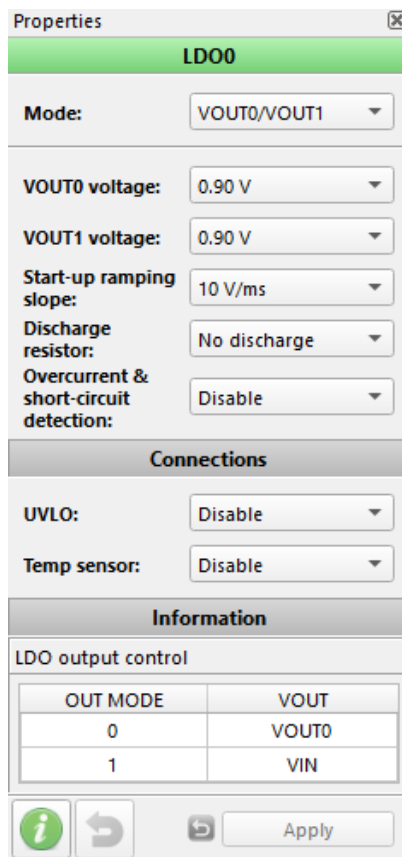

Figure 2: LDO Property Menu
The SLG46580 incorporates the configurability of Dialog's GreenPAK ICs into LDOs by providing numerous programmable features. These LDOs have three modes of operation: bypass mode, high power (HP) mode, and low power (LP) mode. While LP and HP mode are both LDO regulator modes, bypass mode operates as a simple power switch connecting VIN to VOUT. Inside the LDO's property menu, you can select between "VOUT0/VOUT1" or "VOUT0/PWR switch" modes as shown in Figure 2. In "VOUT0/VOUT1" mode, you can select between regulating at VOUT0 or VOUT1 based on the LDO's VOUT0/VOUT1 matrix connection. A digital LOW will select VOUT0 while a digital HIGH will select VOUT1. Similarly, in "VOUT0/PWR switch" mode, you can select between VOUT0 and Bypass mode.